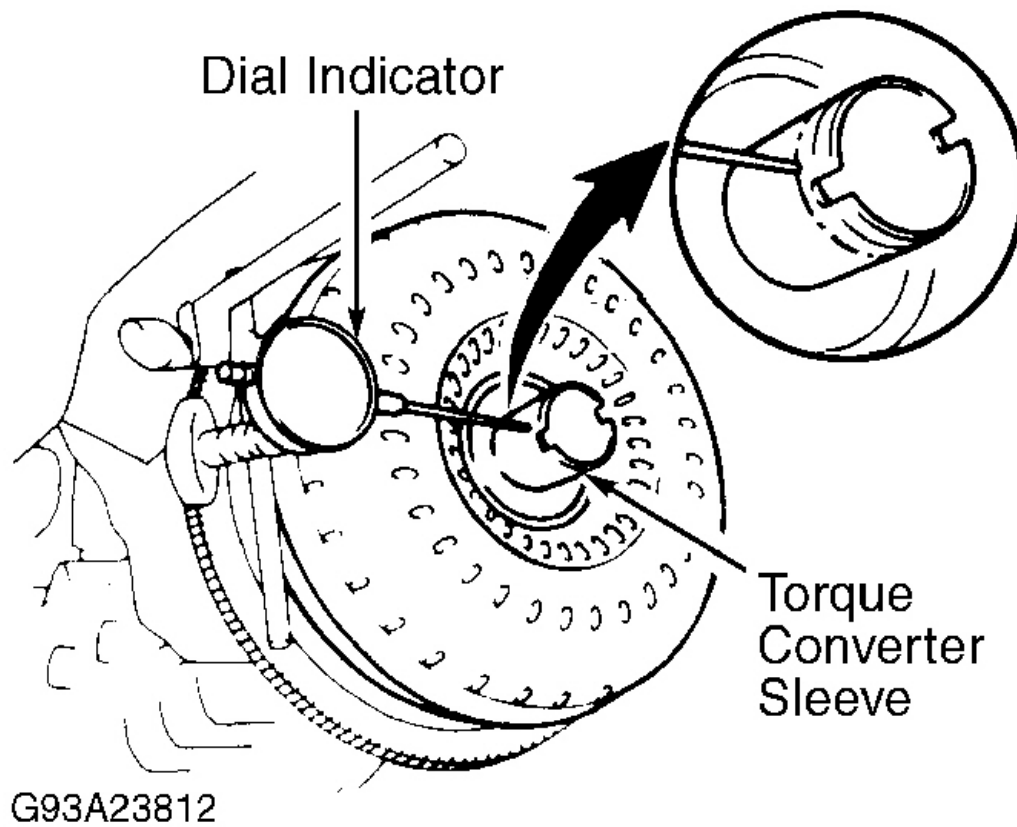

Fig. 9: Measuring Torque Converter Sleeve Runout
1. Temporarily mount Tighten converter to drive plate. Mount a dial indicator with needle resting on converter sleeve. See **Fig. 9**. Rotate converter. If runout exceeds .012" (.30 mm), ensure converter is properly mounted to drive plate.